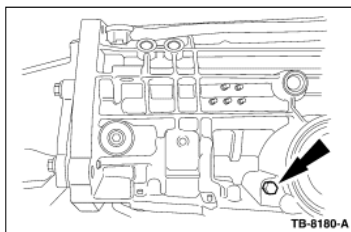

Figure 1 - Article 05-21-8
1. Remove pressure tap plug at PCC port (Figure 1).